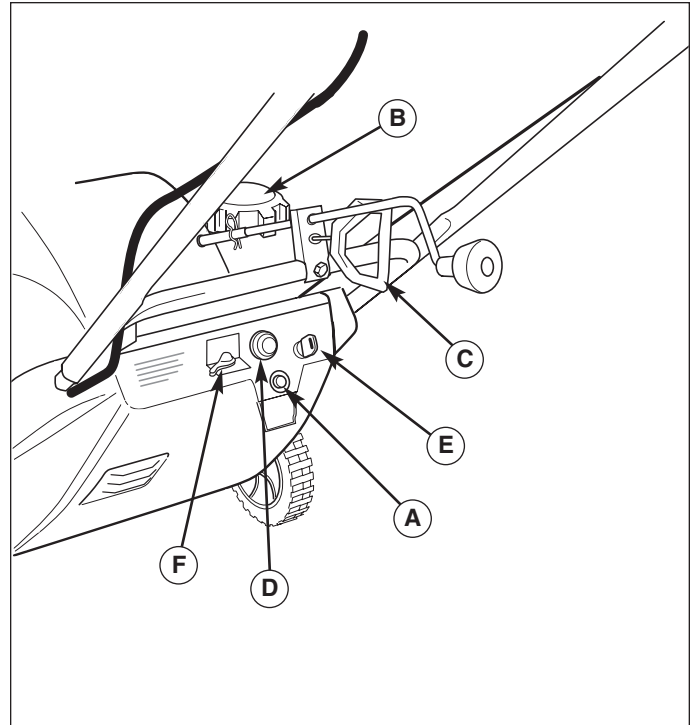

Figure 8. Engine Controls
- A. Electric Start Button** - The Electric Start Button (A, Figure 8) activates an electric starter mounted to the engine, eliminating the need to pull the starter handle. The Electric Start Button operates on 120 Volts AC, which is provided by connection to the extension cord provided with units equipped with this feature. **Connect this extension cord ONLY to a properly grounded 3 prong electrical outlet.**
- C. Starter Handle** - The starter handle (C) connects to a starter cord to manually start the engine. Pulling starter handle rapidly spins the engine crankshaft, cycles the engine, and generates the spark necessary for starting the engine.
- D. Primer Button** - When pressed, the Primer Button (D) provides initial fuel to help start a cold engine. Normally, pressing the primer button twice will provide enough fuel to start a cold engine.
- F. Choke Control** - The is control (F) adjusts the fuel/air mixture, and is used to help start a cold engine by providing a richer mixture. Once the engine is warm and running smoothly, the Choke Control should be set to the off position to provide a normal air/fuel mix.